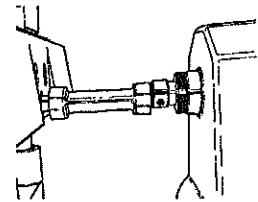
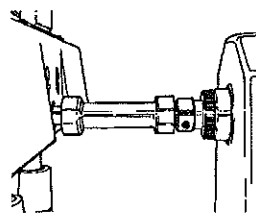
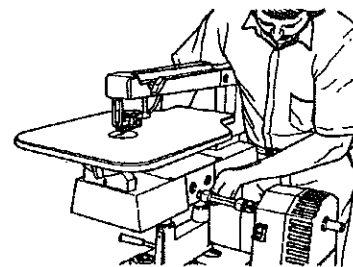

Fig.D-9
Fig.D-11
Fig.D-10
13. Fig.D-9 shows typical vertical misalignment. After you have horizontally aligned the Scroll Saw to the drive shaft hub (31), lift the Scroll Saw until the coupler vertically aligns with the drive shaft hub. See Fig.D-10. When they are vertically aligned as in Fig D-11, tighten the Scroll Saw tube setscrews. Recheck the vertical alignment. If it is off, re-do it.